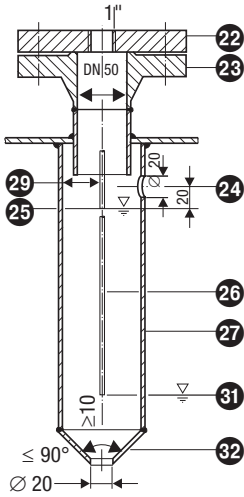

Fig. 6
3. Loosen hexagon nut **20** with 17 mm open-end spanner but do not remove! **Fig. 6**